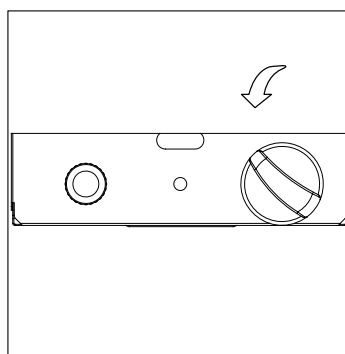

Figure 1
3. Push control knob in and rotate to pilot position (Figure 1).